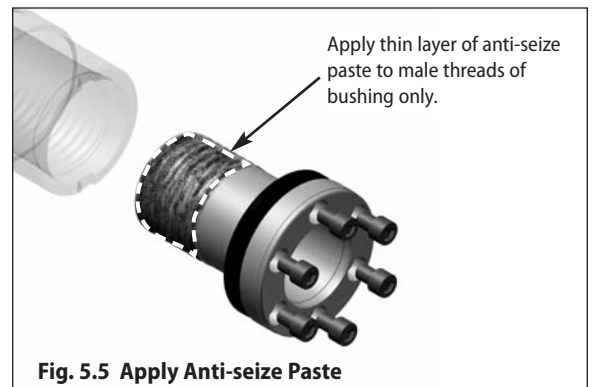

Fig. 5.5 Apply Anti-seize Paste
Step 4 – Apply a thin layer of anti-seize paste **to the male threads of the Taper-Grip® Bushing only** (see Fig.5.5). Ensure that anti-seize paste does not enter the Taper-Grip® Bushing bore. **Caution: Do not apply anti-seize paste to the female threads in the hub.**